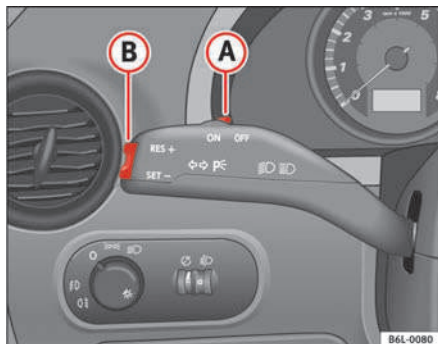

Fig. 102 Turn signal and main beam headlight lever switch for the cruise control
- Move the control ⇒ fig. 102 **A** to the left to **ON**.